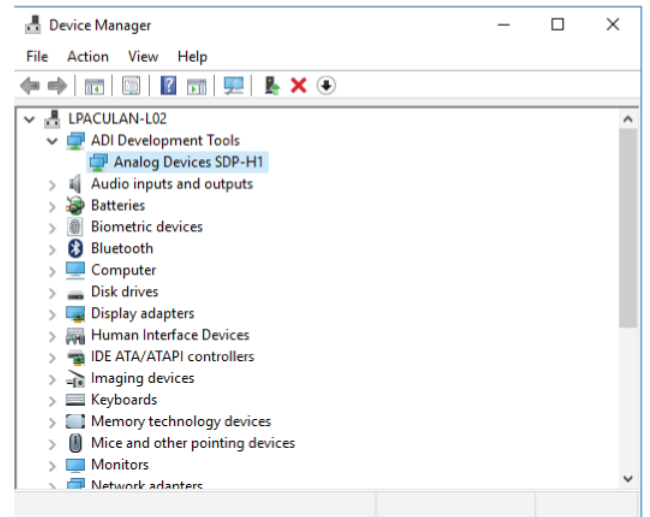

Figure 24. Windows Device Manager
4. If the SDP-H1 driver software is installed and the board is connected to the PC properly, **Analog Devices SDP-H1** appears under **ADI Development Tools** in the **Device Manager** window, as shown in Figure 24.